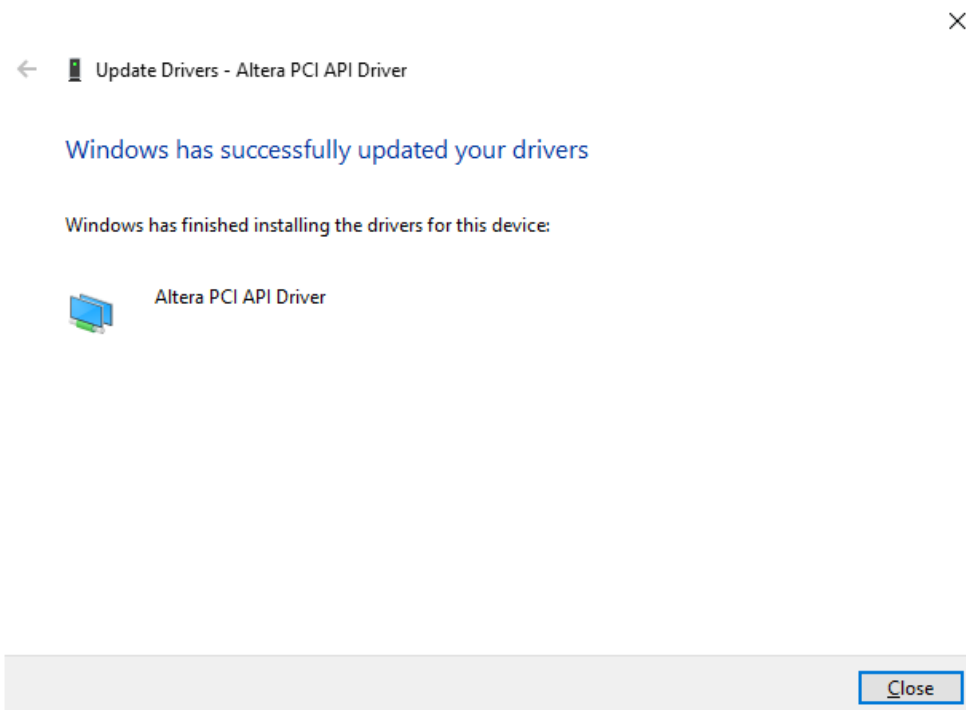

Figure 3-7 Altera PCI API Driver installation is completed
11. Figure 3-7. Click the **Close** button.